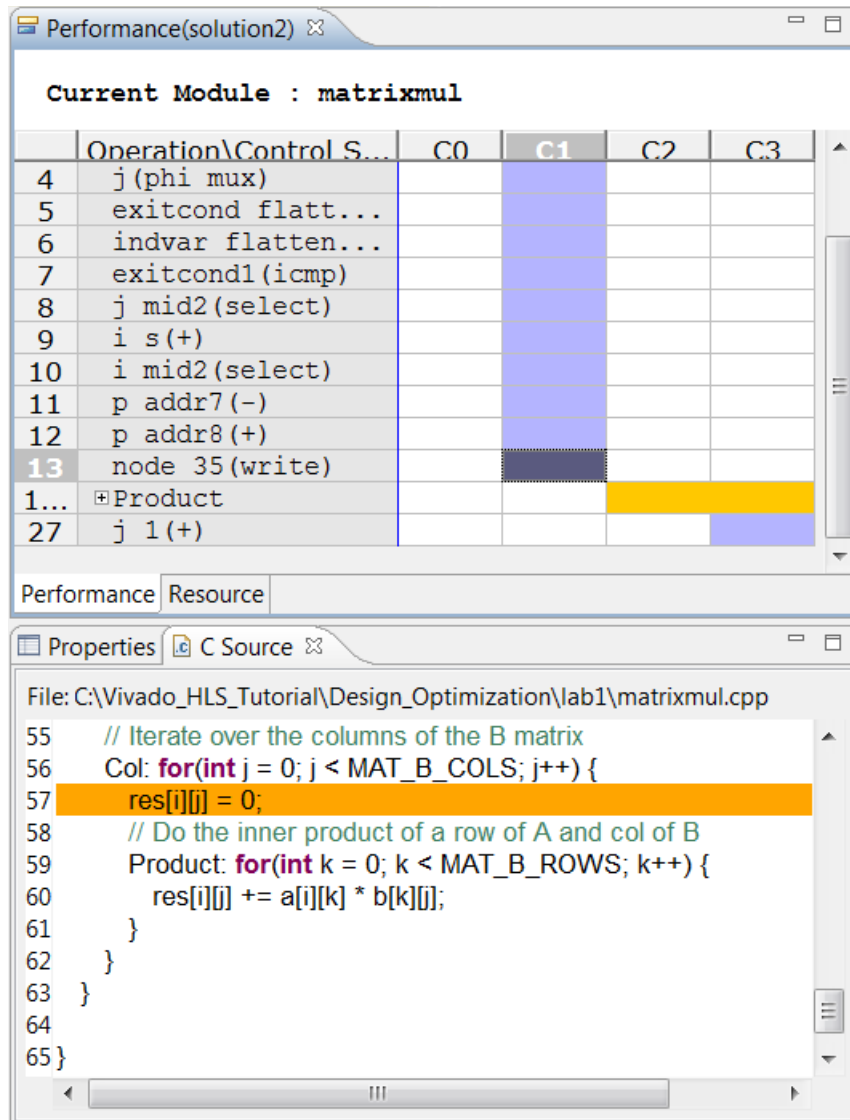

Figure 7-8: Matrixmul Initial Performance View
9. Right-click and select **Goto Source** to see the view in Figure 7-8.